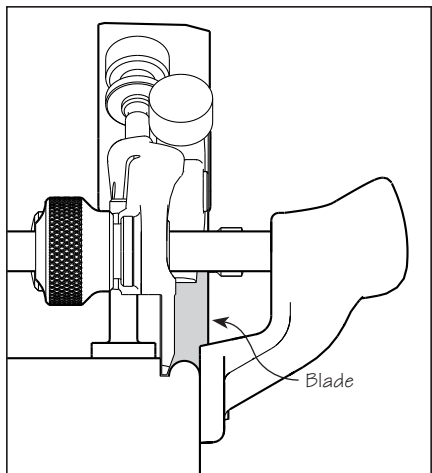

Figure 8: Cutting beads.
3. Set the depth stop such that the top of the resulting bead is just below the surface of the workpiece, as shown in **Figure 8**.